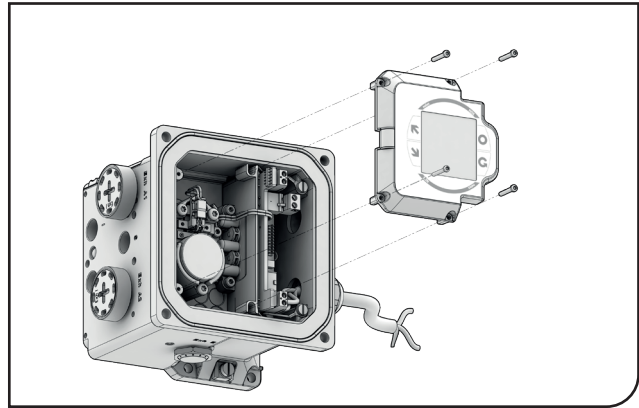

Fig. 93. NDX\_511\_ and NDX\_512\_
- Loosen the prestage cover screws and remove the prestage cover (Fig 93, applies to NDX1510\_ only)